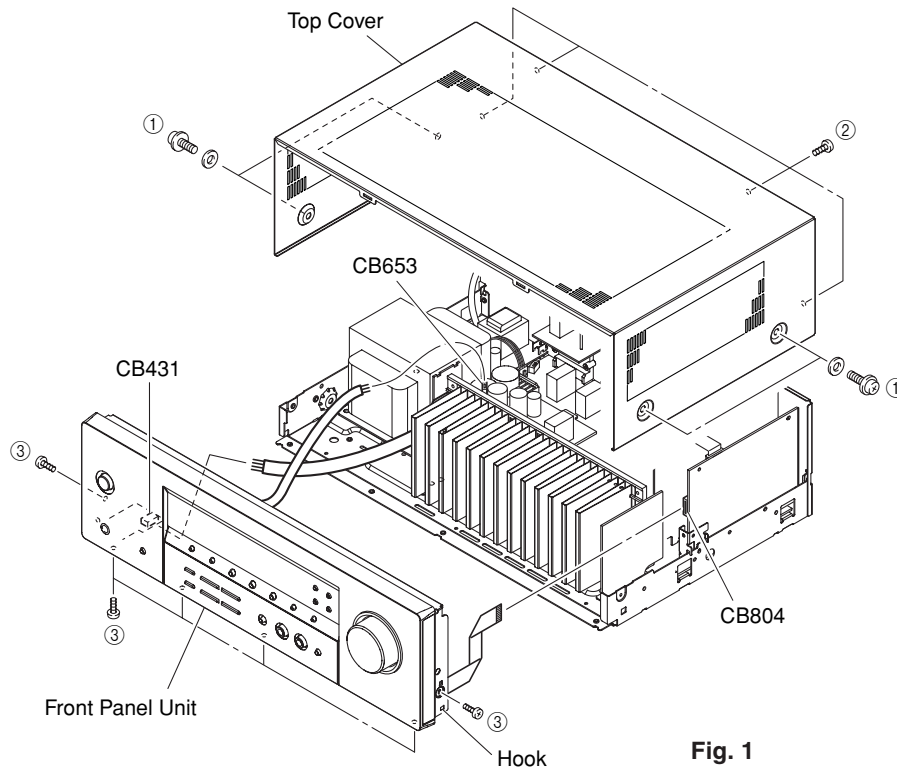

Fig. 1
- a. Remove 4 screws (①) and 4 screws (②). (Fig. 1)
- b. Slide the Top Cover rearward to remove it. (Fig. 1)
- b. Remove CB431, CB653 and CB804. (Fig. 1)
- c. Remove 6 screws (③). (Fig. 1)
- d. Release a hook on the right side of the Front Panel Unit, then remove the Front Panel Unit forward. (Fig. 1)